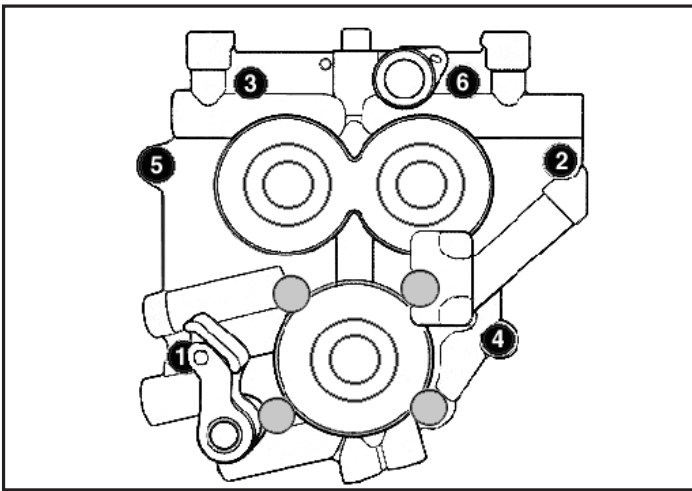

Figure 2
13. Following sequence shown in **Figure 2**, alternately loosen and remove cam support plate bolts.
21. Loosely install support plate screws with a drop of blue thread locker Alternately tighten screws to 95 in-lbs. torque following sequence shown. See **Figure 2 on Page 4.**
Support plate screws that pass through alignment dowels (See positions 1 & 2 in Figure 2) can be easily stripped. Do not exceed torque recommendation.